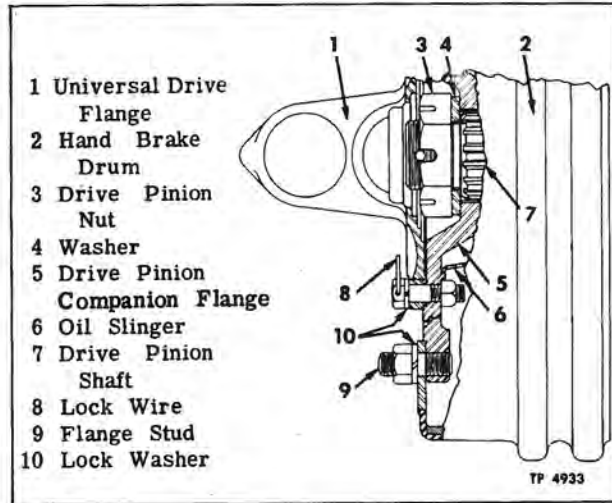

Figure 2—Propeller Shaft Installation at Rear Axle
2. Remove lock wire, nuts, lock washers, and bolts attaching propeller shaft yoke flange to companion flange at differential (fig. 2).